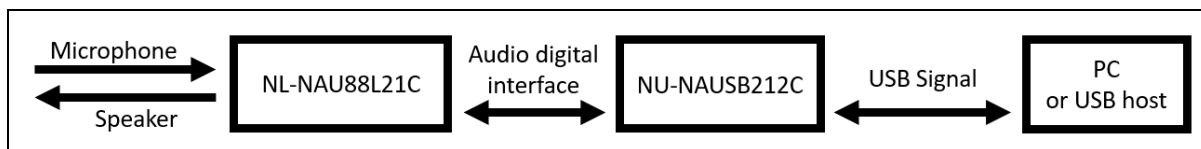

Figure 2-5 Signal Path of NU-NAUSB2I2C and NL-NAU88L21C
3. CN2 of NU-NAUSB2I2C uses USB Cable to connect to a PC under Windows system. (If possible, please do not connect to the PC through USB HUB). Figure 2-5 shows the audio signal path after the two boards are connected to each other.